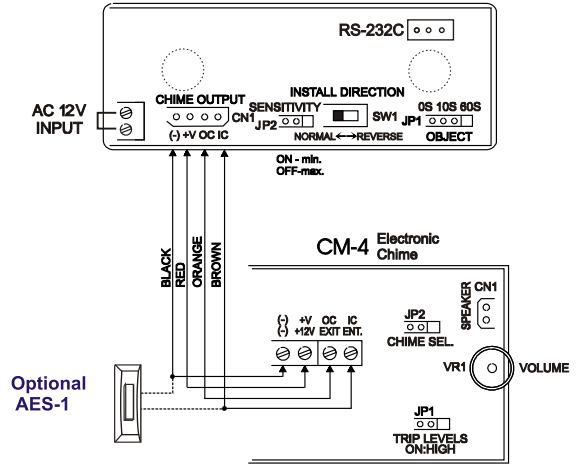

Fig. 7
3. Using the 26ft-4 conductor wire, strip the insulation back approximately 1/4 inch and insert the stripped end of the wires into the chime terminals (Fig. 7).
4. Connect the opposite end of the same wires to chime terminals labeled (-) and ENT. (Fig. 7)